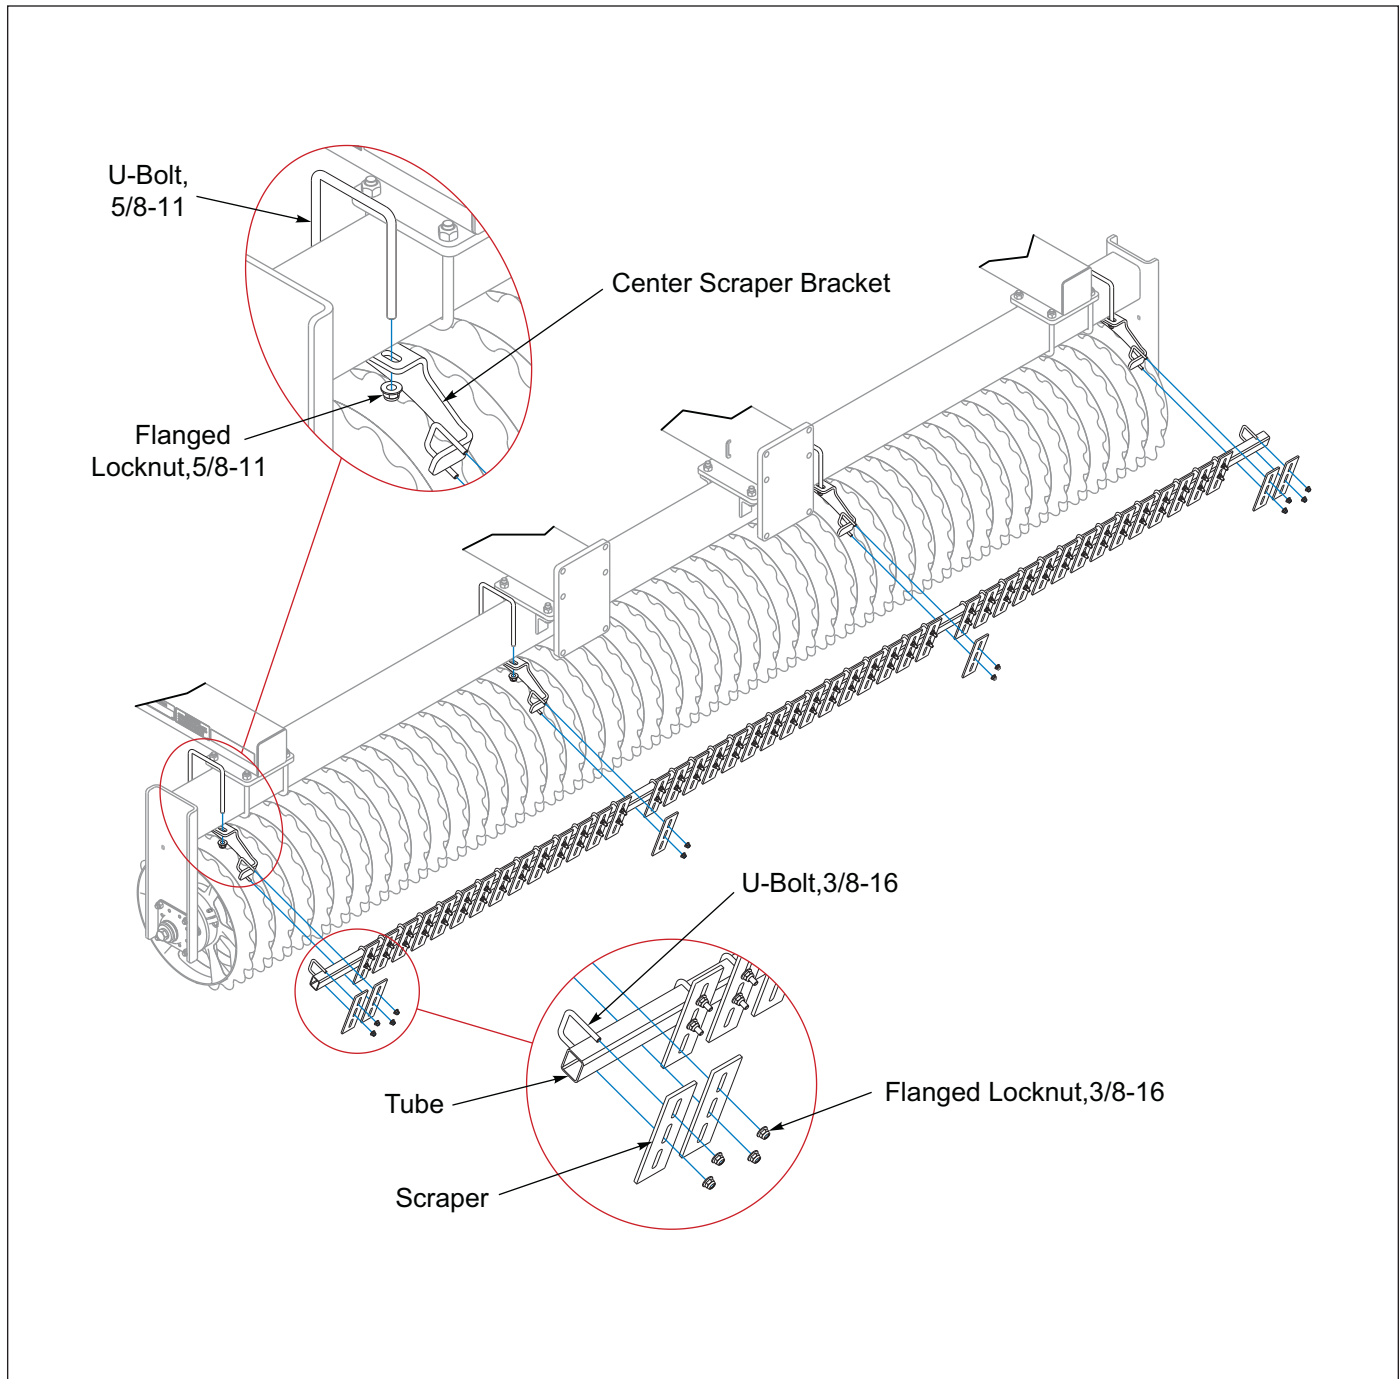

Figure 2-66: Center Rear Scraper Installation
1. With the Rollers on level ground, place the 5/8-11 U-bolts over the frame tube and through the Center Scraper Brackets, secure with Flanged Locknut. See Figures 2-66 and 2-67.